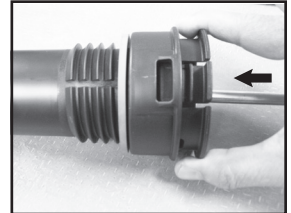

Figure 10
5. Insert the pump handle assembly into the barrel. Align the tabs of the pump cap with the rectangle cutouts on the barrel. Push cap into place until the cap snaps securely into position. **(See Figure 10)**